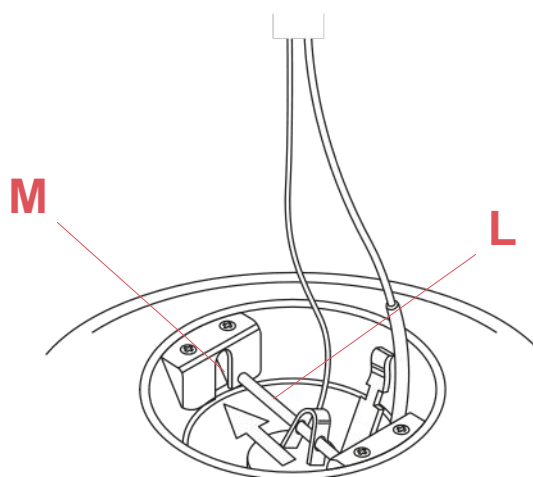

Fig.2
Insert the rod (L) in the housing (M). (fig.2)